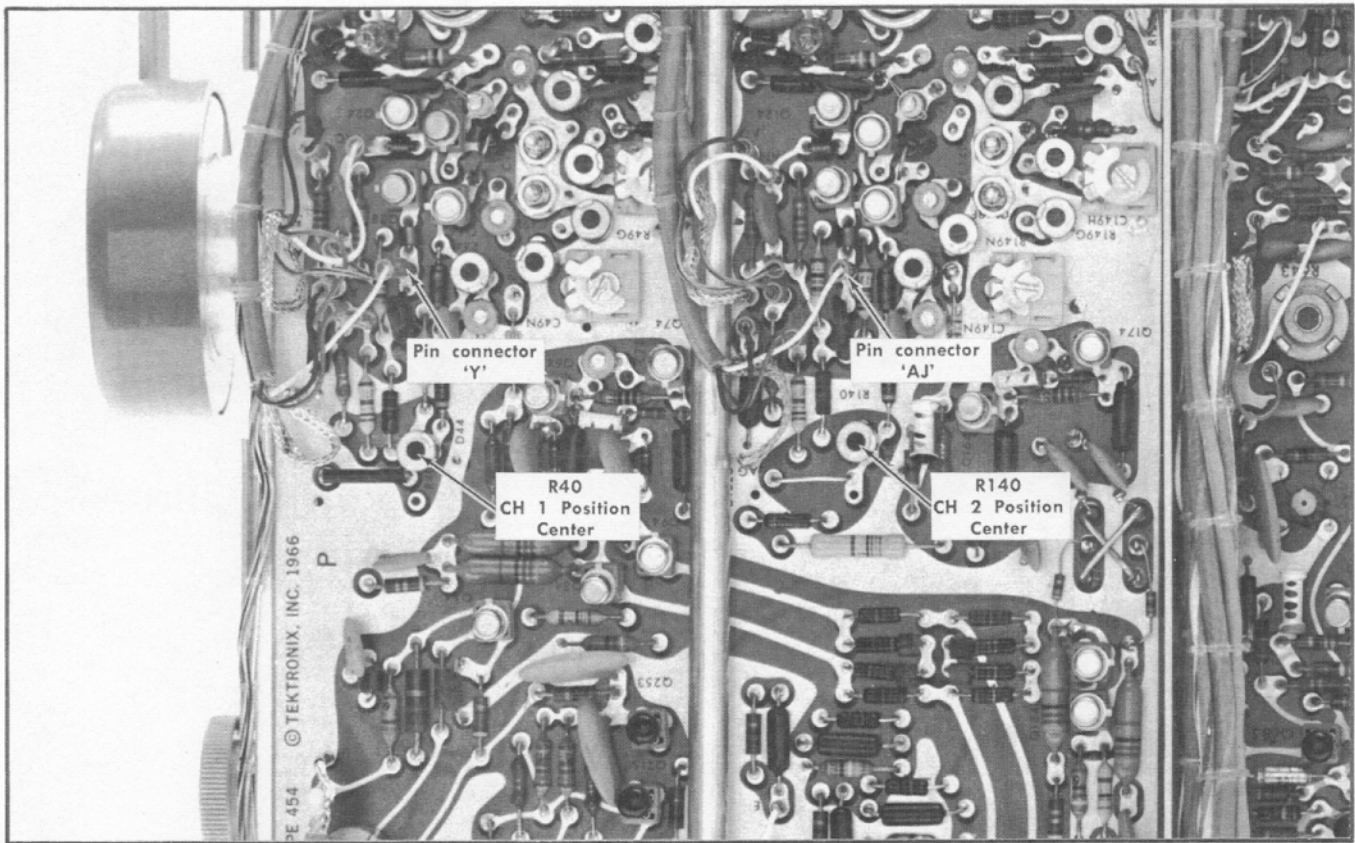

Fig. 6-17. Location of Channel 1 and 2 Position Center adjustments and test points (Vertical Preamp circuit board).
a. Connect the precision DC voltmeter between pin connector 'Y' on the Vertical Preamp circuit board (see Fig. 6-17) and ground.
e. ADJUST—CH 1 Position Center adjustment, R40 (see Fig. 6-17), to position the trace to the center horizontal line.
g. Connect the precision DC voltmeter between pin connector 'AJ' on the Vertical Preamp circuit board and ground (see Fig. 6-17).
j. ADJUST—CH 2 Position Center adjustment, R140 (see Fig. 6-17), to position the trace to the center horizontal line.